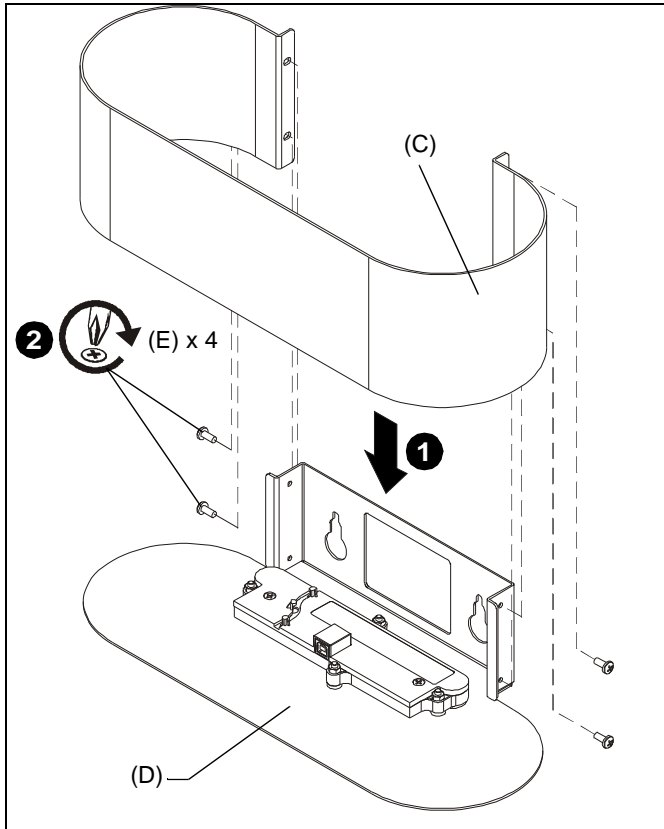

Figure 3
1. Install cover (C) to sensor assembly (D). (See Figure 3)
2. Fasten cover with four 8-32 x 3/8" Phillips head screws (E). (See Figure 3)